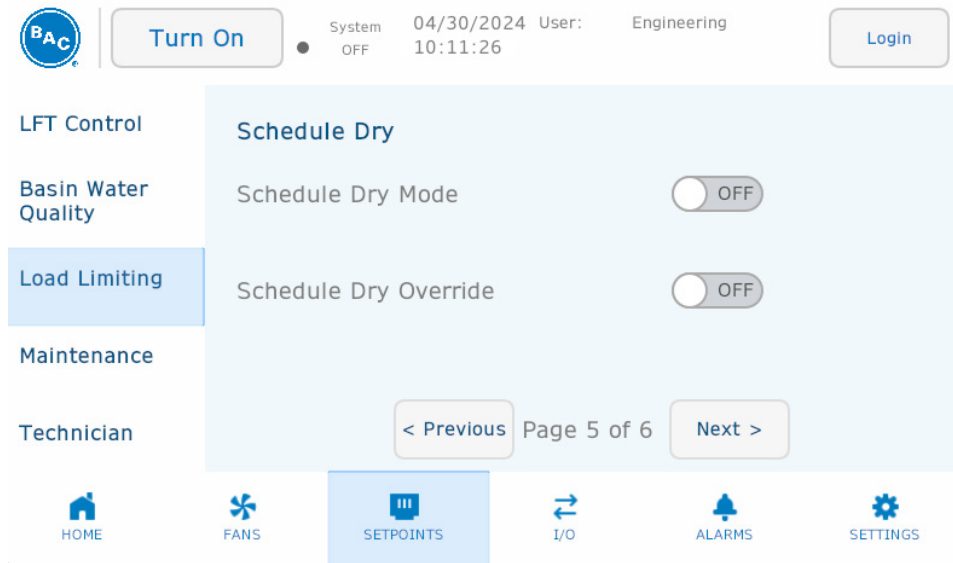
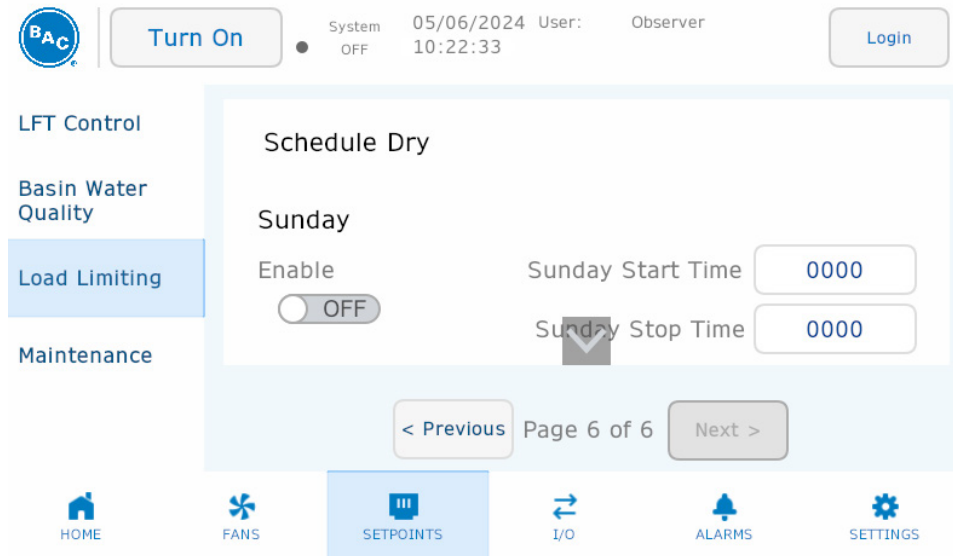

Figure 67. Setpoints Menu, Load Limiting Page 5 of 6
Figure 68. Setpoints Menu, Load Limiting Page 6 of 6
- Schedule Dry load limiting mode shown in **Figure 67** and **Figure 68** with parameters listed in **Table 18**.
Schedule Dry Enable/Disable	Allows user to either enable or disable the feature. If enabled, no water will be used during the times set in the schedule shown in Figure 68 .
Schedule Dry Override	If enabled, no water will be used regardless of the schedule shown in Figure 68 . In addition to the on-screen button, the override can also be enabled with the “ScheduleDryOverride” variable in Table 71 .